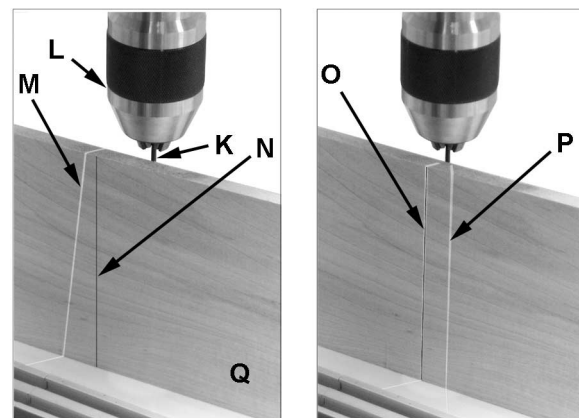

Figure 22
6. Adjust the other laser in the same manner. Two parallel laser markings should look like O and P in Figure 22 – the distance between the lines will vary with board thickness; however, the lines must be parallel.